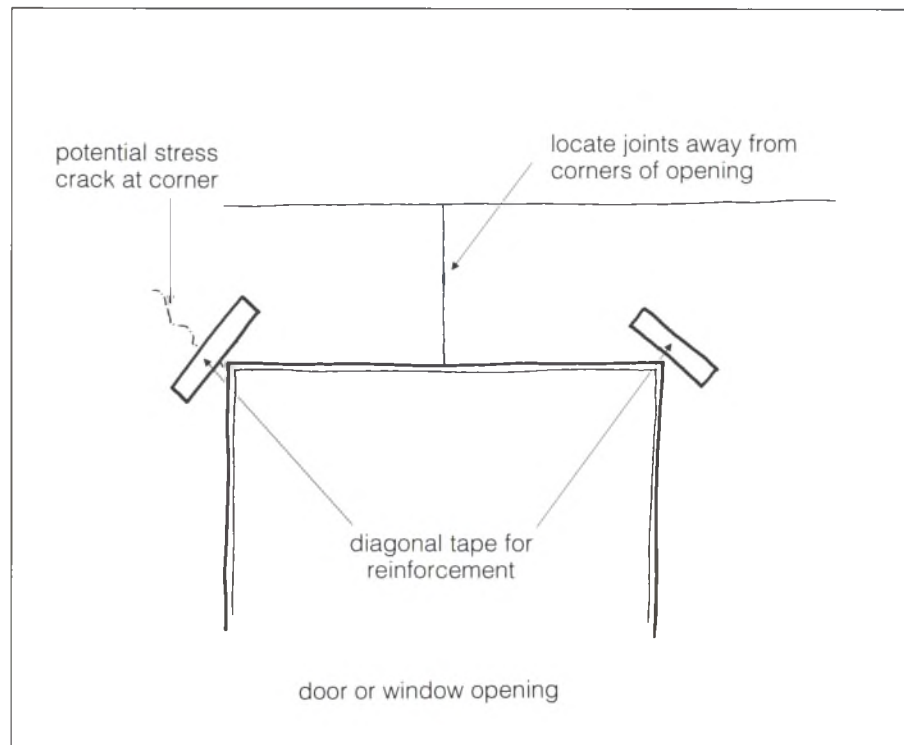

Fig. 16. Preventing stress cracks
- Avoid locating joints at the edge of the header (*fig. 16*).
- Apply 150-200 mm (6"-8") lengths of joint tape diagonally to reinforce corners (*fig. 16*).